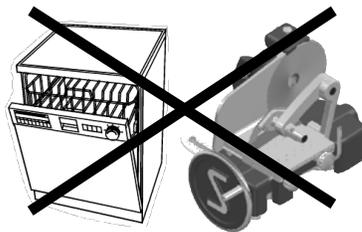

Fig.25
- Do not wash the slicer in a dishwasher (Fig.25) or with jets of water; do not immerse it in water or other liquids.